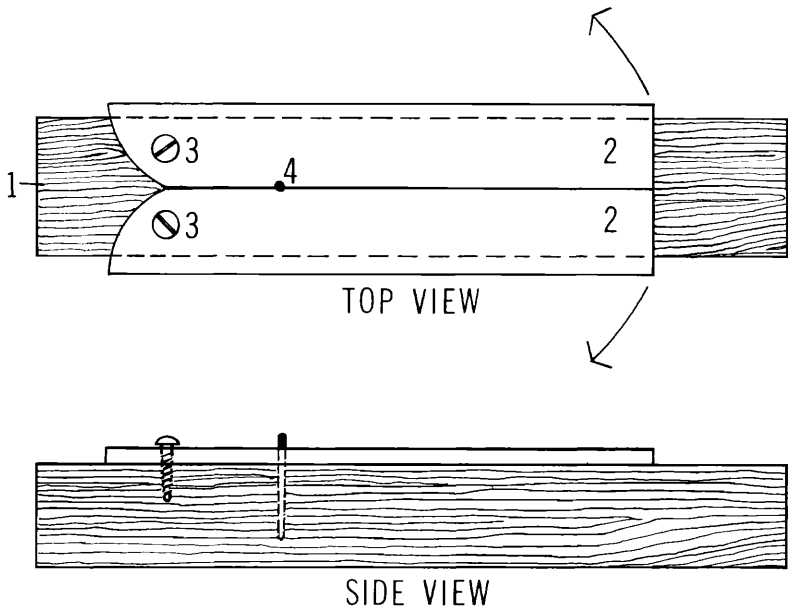

Figure 1. Top and side views of the device for forming hummingbird bands.
*Materials:* (1) a hardwood block 1 inch wide, 5-1/2 inches long, and 3/4 inch thick; (2) two pieces of hard clear plastic, 4 inches long, 5/8 inch wide, and 1/8 inch thick; (3) two #5 round-headed screws, 1/2 inch long; and (4) one #17 wire brad, 1-1/4 inches long.
*Procedure:* Round off one end of each of the pieces of plastic so they will not bind when opened (see fig. 1). The facing edges of these pieces should be smooth and straight; this can be accomplished by rubbing them on a flat sheet of fine sandpaper. One-quarter inch from the rounded end of each piece of plastic, drill a 1/8th inch hole. Next place the plastic strips side by side along the center line of the wooden block, and drill through the 1/8th inch holes into the block with a 1/16th inch drill. Then fasten the plastic strips firmly to the block with the #5 round-headed screws. Thus mounted the strips can be swung out from each other, but without any wobble or play on the wooden block. When closed, the outer (long) edges of the strips will extend slightly beyond the sides of the wooden base; this is useful when applying pressure to form a band.
Holding the two plastic strips tightly together, drill a 1/16th inch hole (#4 in fig. 1) through the center line and slightly into the block, 1-1/4 inches from the end of the strips. Then drive the #17 wire brad into the wooden block in the center of the drill mark. Cut off the brad 1/4 inch above the block and round off with a small file. Finally, enlarge slightly the semicircular holes in the plastic with a small round file. The stump of the brad should form a center post within the circular opening between the plastic pieces.